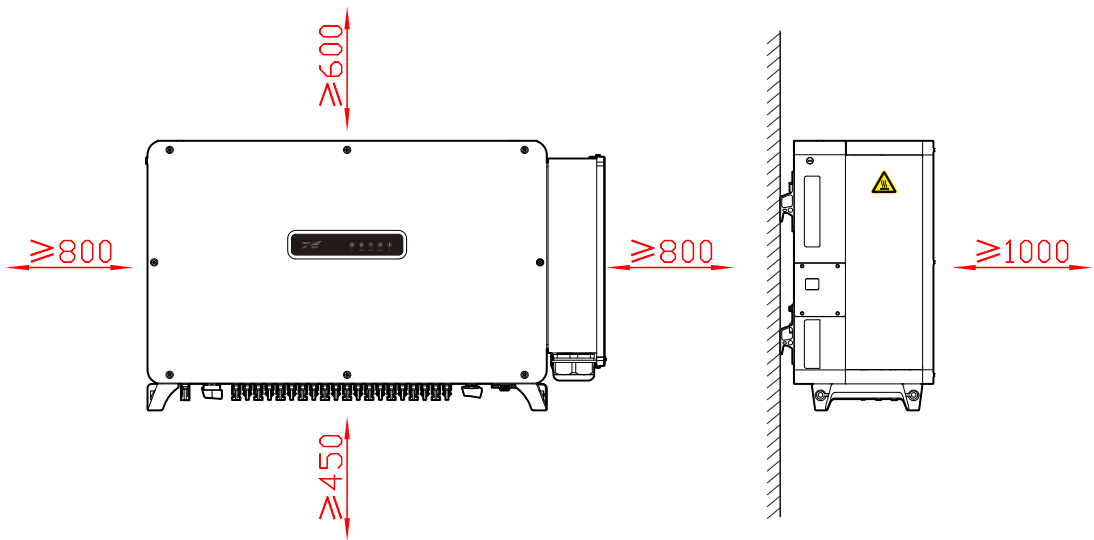

Figure3-4 Installation clearance (unit: mm)
- Keep a clearance of at least 800mm from the left side and right side of the inverter to other objects, keep at least 600mm from the top of the inverter to ceiling and at least 450mm from the bottom of the inverter to ground, which is good for heat dissipation or maintenance, as shown in Figure3-4.